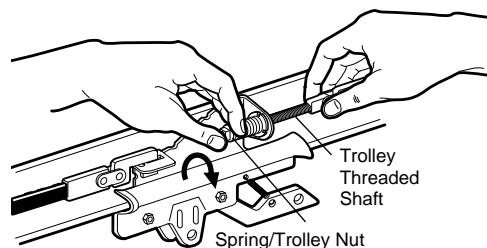

Figure 1
- By hand, thread the spring trolley nut on the threaded shaft until it is finger tight against the trolley (Figure 1). Do not use any tools.